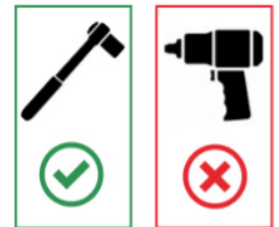

Figure 3.
- Depending on application, follow the torque sequence as outlined in Figure 3. It is recommended to perform this sequence with the steering knuckle in the straight-ahead position. This ensures steering knuckle is properly aligned to the axle assembly. The final position of the ball joint will be set by following the torque sequence.